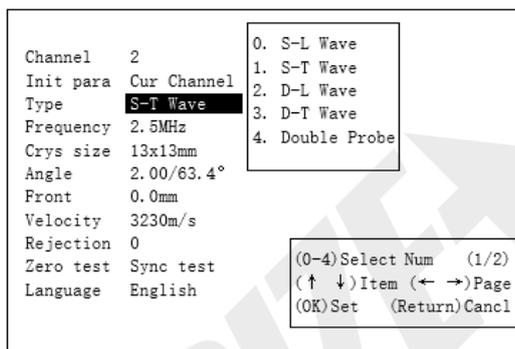

Figure2-17
2.2.7.3 Probe Type Selection: Press to invert the slant probe, as shown in Figure 2-17.